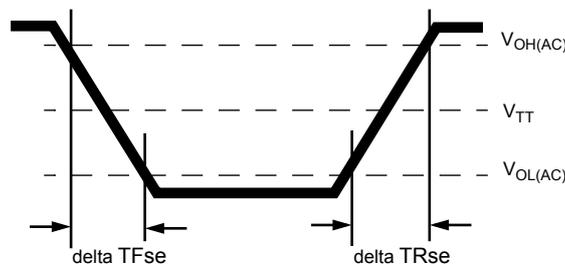

Figure 6. Single-ended Output Slew Rate Definition
With the reference load for timing measurements, output slew rate for falling and rising edges is defined and measured between V_{OL}(AC) and V_{OH}(AC) for single ended signals as shown in Table 13 and Figure 6.